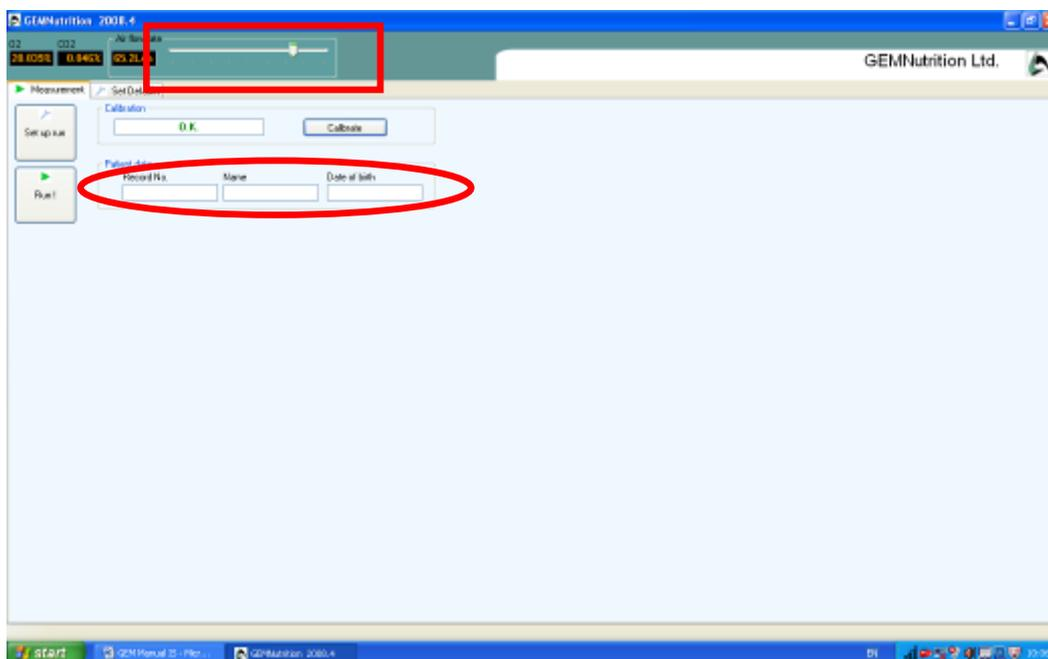

Figure 6. Participant details.
9. In order to save participant results enter some participant details into the "record number", "name" and "date of birth" boxes (circled red in figure 6).
You need to adjust the flow rate by moving the sliding bar (outlined in red in figure 6) until the  $\text{FeCO}_2$  value reads approximately 0.5. For adults 38-45L/m is usually satisfactory.